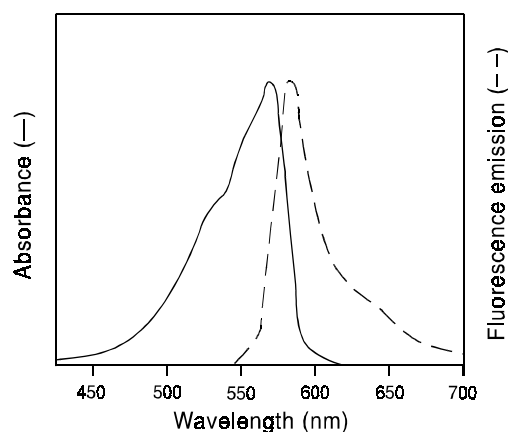

Figure 1. Normalized absorption and fluorescence emission spectra of resorufin, the product of the Amplex Red reaction.
In the presence of peroxidase, the Amplex Red reagent reacts with H_2O_2 in a 1:1 stoichiometry to produce the red-fluorescent oxidation product, resorufin.¹ Resorufin has absorption and fluorescence emission maxima of approximately 571 nm and 585 nm, respectively (Figure 1), and because the extinction coefficient is high ($54,000\text{ cm}^{-1}\text{M}^{-1}$), the assay can be performed either fluorometrically or spectrophotometrically. This reaction has been used to detect as little as 10 picomoles of H_2O_2 in a 100 μL volume (50 nM; Figure 2) or 1×10^{-5} U/mL of HRP (Figure 3).
2.8 Measure the fluorescence or absorbance. Use a microplate reader equipped for excitation in the range of 530–560 nm and fluorescence emission detection at ~ 590 nm (see Figure 1), or for absorbance at ~ 560 nm.
3.5 Measure the fluorescence. Use a fluorescence microplate reader equipped for excitation in the range of 530–560 nm and emission detection at ~ 590 nm, or absorbance at ~ 560 nm (see Figure 1).
4.8 Measure the fluorescence or absorbance. Use a microplate reader equipped for excitation in the range of 530–560 nm and emission detection at ~ 590 nm, or for absorbance at ~ 560 nm (see Figure 1).